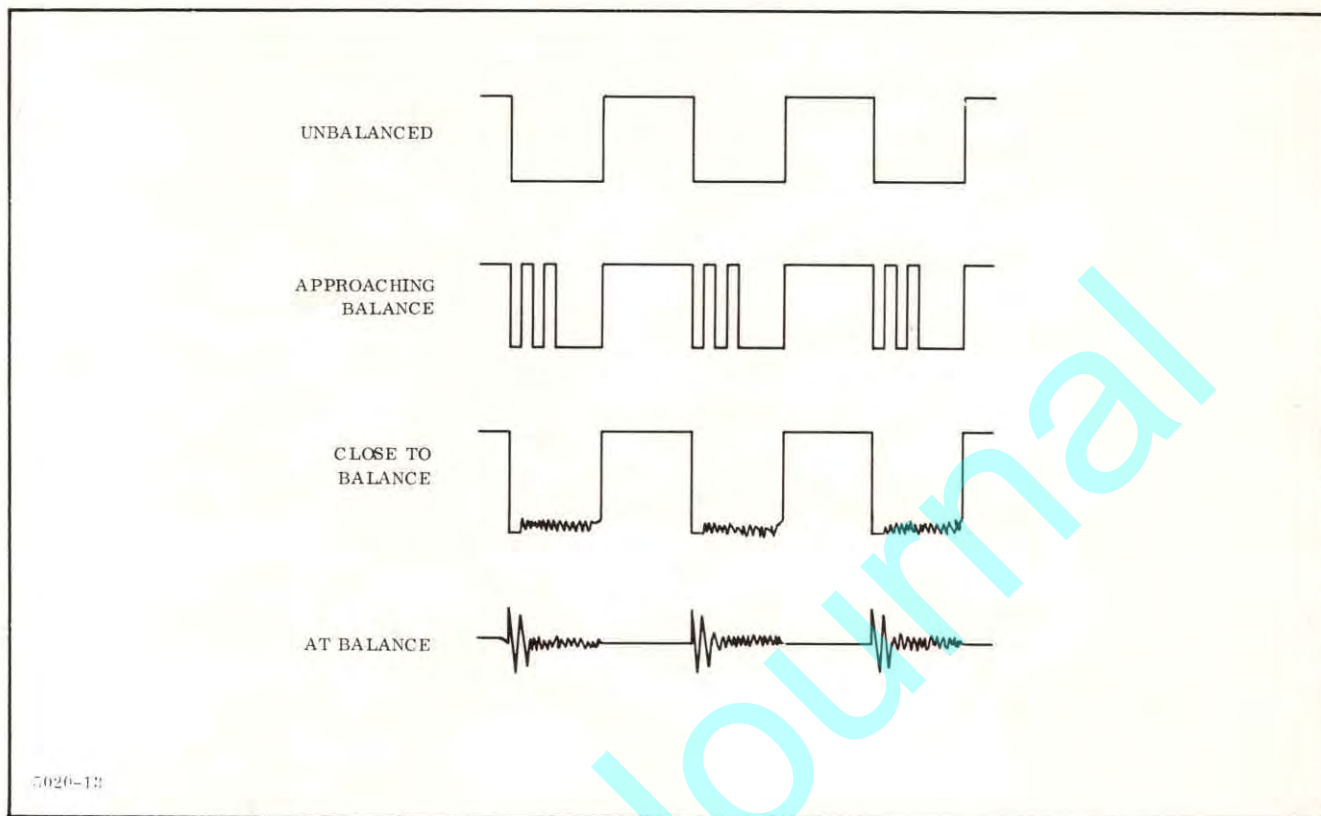

Figure 3-8. Typical Waveforms to Obtain Zero Error
9. Adjust potentiometer R105 (figure 3-7) for zero error (waveform should appear as AT BALANCE in figure 3-8).